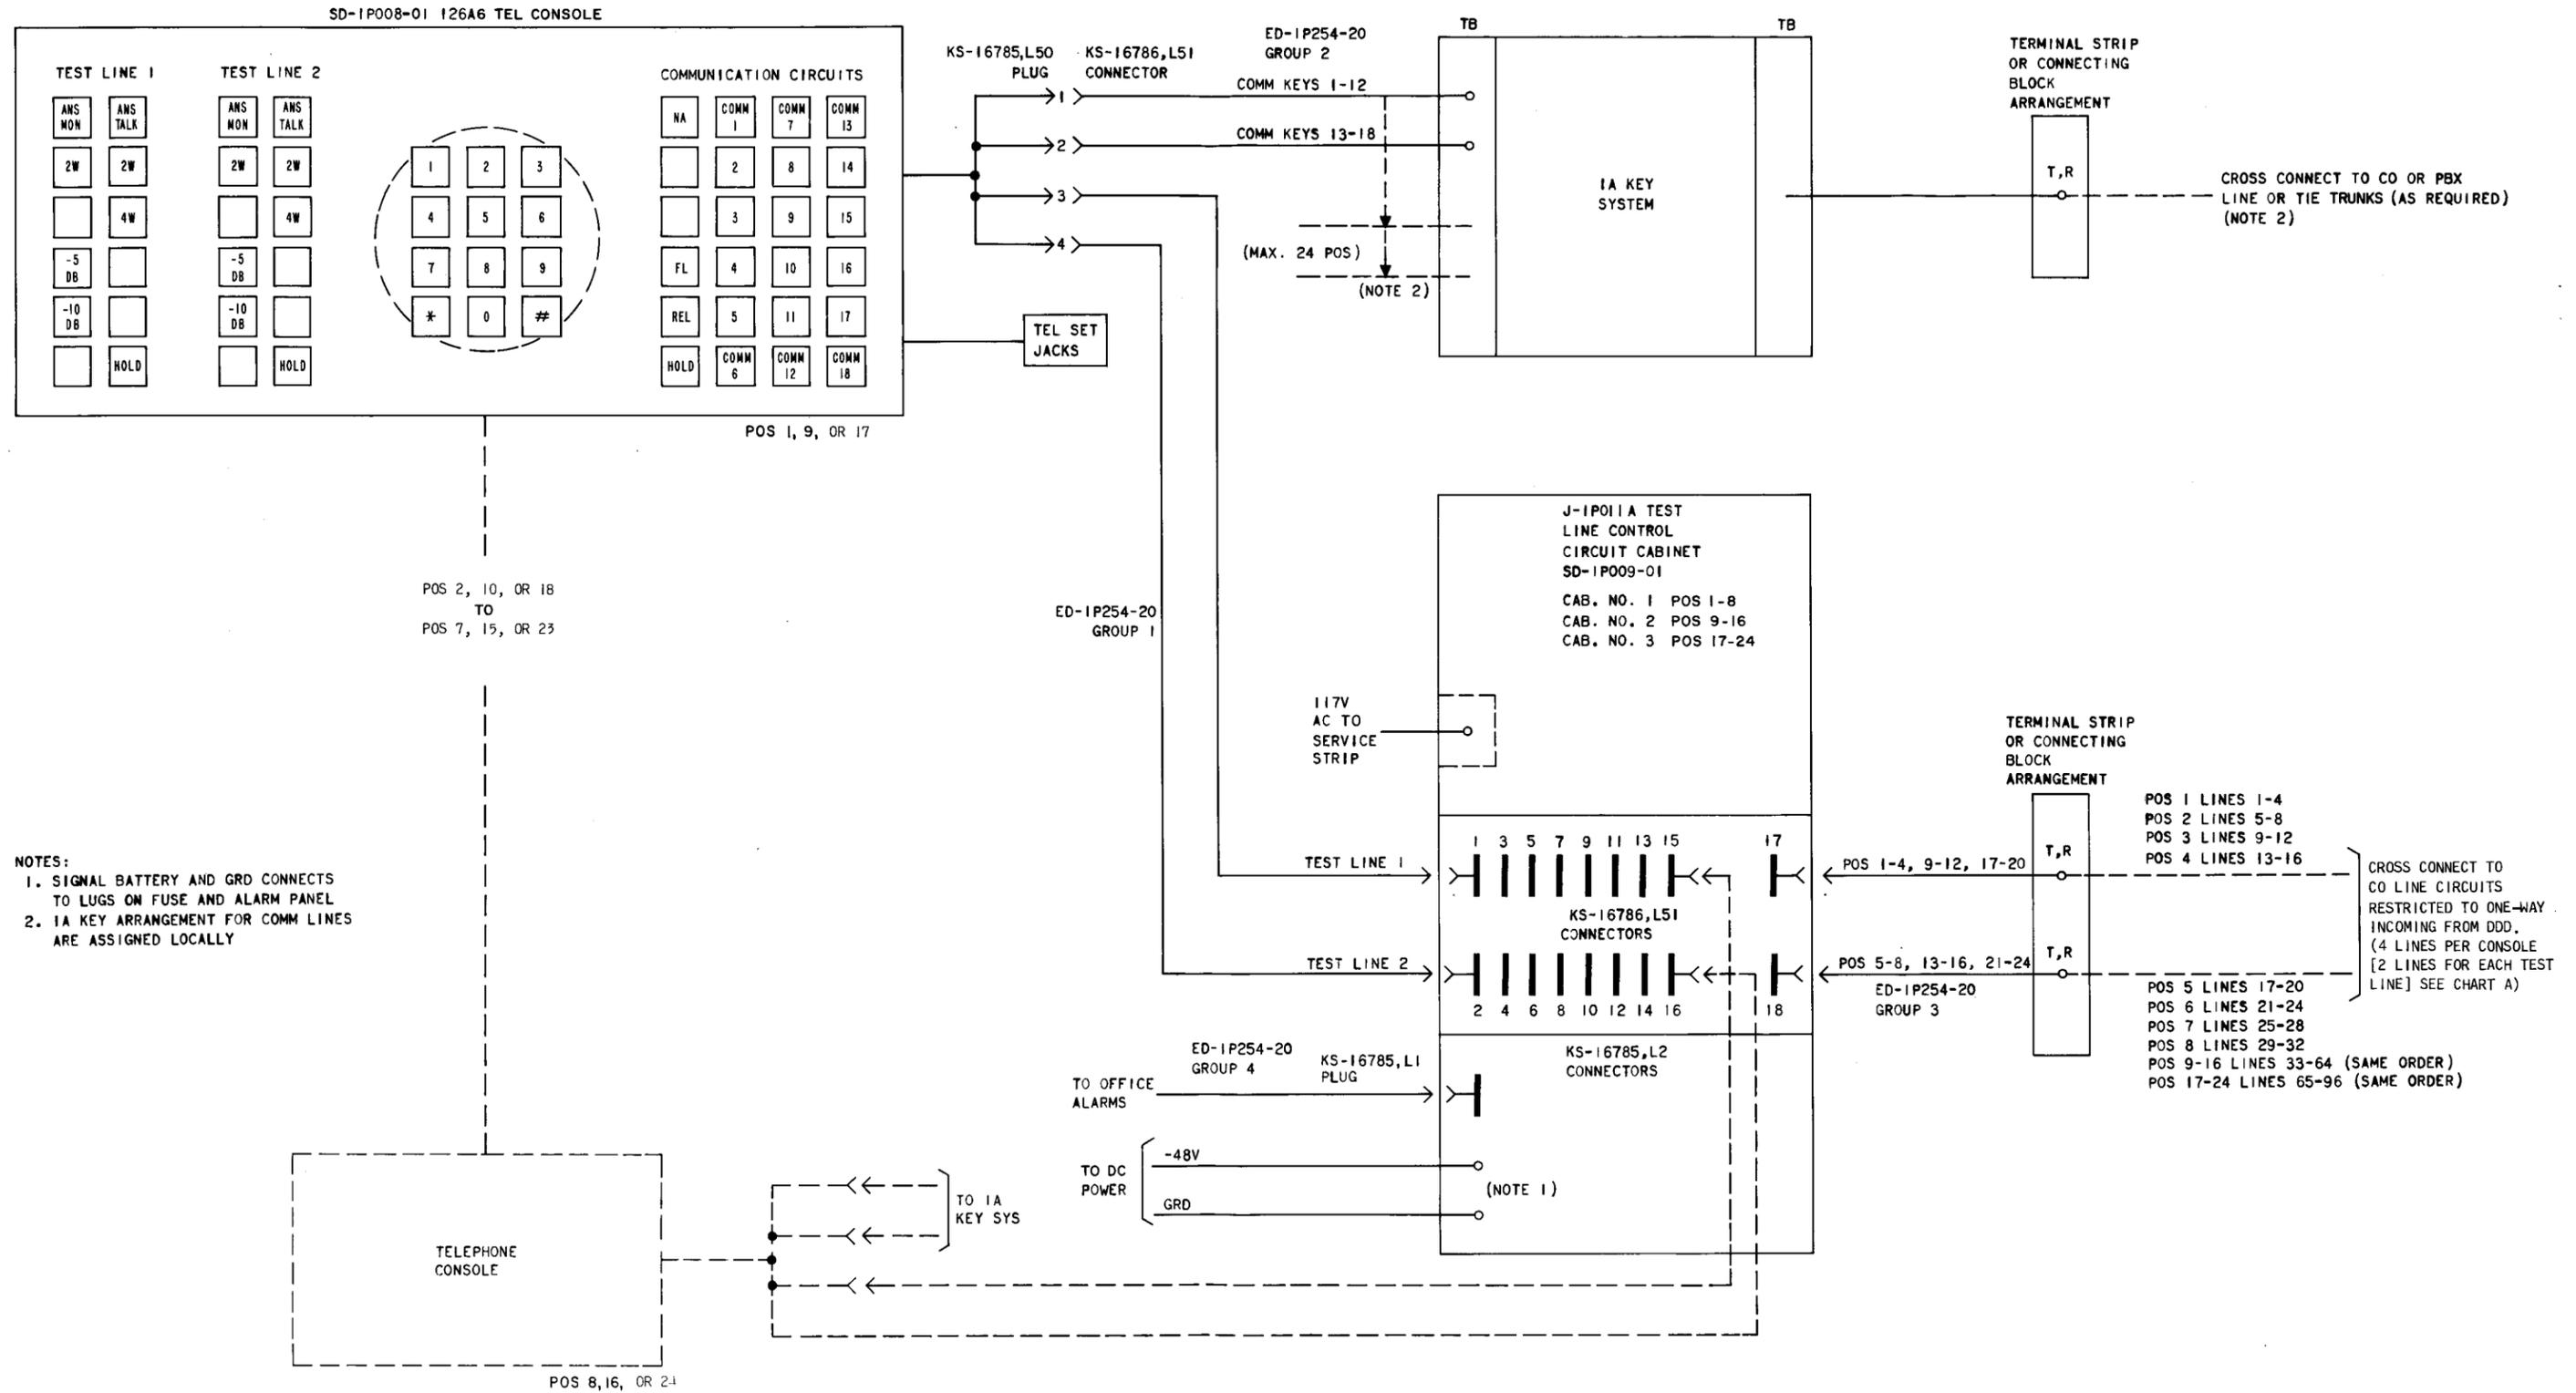

Fig. 1—Interconnection for 52A Test Position
2.05 Install designations in TEST LINE keys. (See Fig. 1.) The COMMUNICATION LINE key designations will vary with the local arrangements specified for the 400 series of Key Telephone Units in the 1A2 KTS.
A. Synchronous DATASPEED 40® Station (KD)
3.04 Chart B is an operational test of the TP-52A console based on the sequence charts on SD-1P008-01, Sheets E1 through E6. This chart can be used to test all features of the Test Line keys and associated test line control circuitry. The central office line circuits for each Test Line in each console to be tested should be connected to the connecting block arrangement or terminal strip used to terminate the ED-1P254-30 Group 3 cables (see Fig. 1).